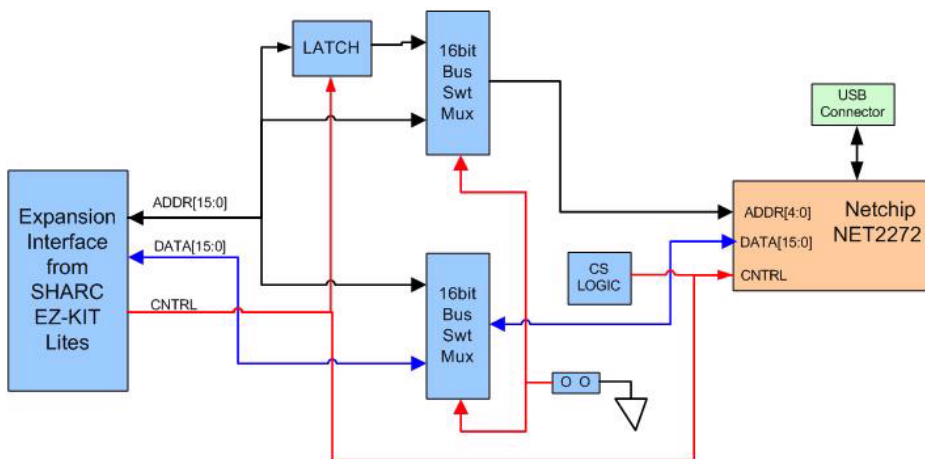

Figure 2-1. Block Diagram
4. Set the jumper on the USB EZ-Extender board. Use the block diagram in Figure 2-1 on page 2-1 in conjunction with “Processor Select Jumper \(JP1\)” on page 2-2.
A block diagram of the SHARC USB EZ-Extender is shown in Figure 2-1.